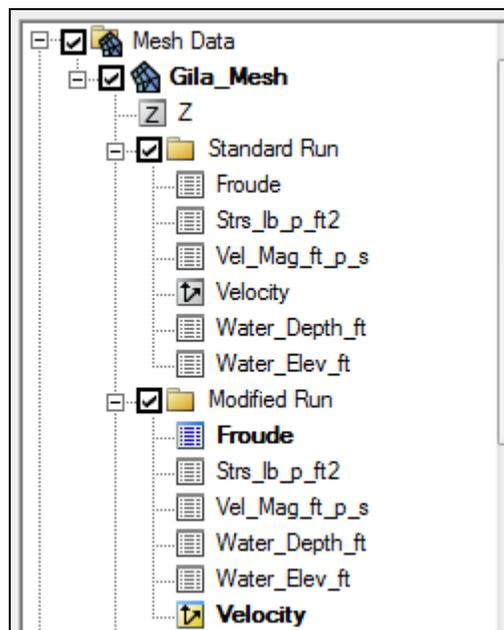

Figure 9 Mesh dataset organization
10. Drag the selected datasets under the “Modified Run” folder. When finished the dataset organization should look like Figure 9.